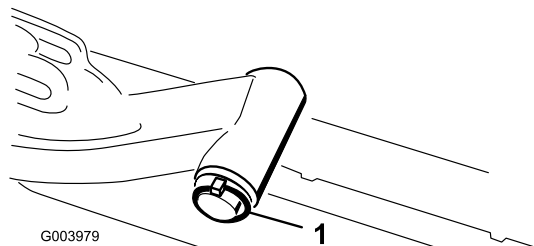

Figure 13
- A. Remove the lynch pin and washer securing the lift arm pivot shaft to the lift arm and slide the lift arm pivot shaft out of the lift arm (Figure 13).
- C. Insert the lift arm shaft into the lift arm and secure it with the washer and lynch pin (Figure 13).